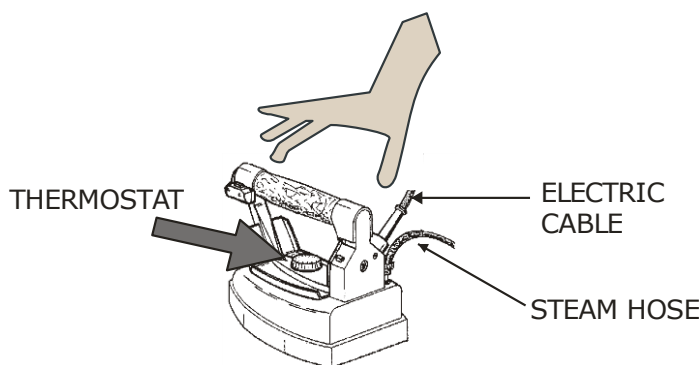
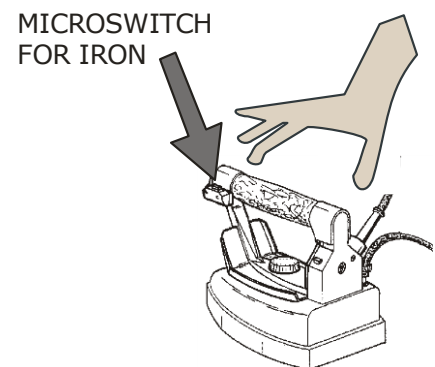

Fig. 6
Fig. 7
1. Seize the iron by the cork handle and press the micro-switch of the iron (fig. 7) 4-5 times so that steam comes out. This is necessary in order to warm the hoses and avoid water dripping from the iron.
2. Start ironing by pressing micro-switch of the iron (fig. 7), activating steaming. As a result, the fibers of the ironed element are damped. Release the micro-switch to smoothen all creases. For a good result, set the thermostat (fig. 6) on "cotton".
5. For dry ironing it is possible to adjust the thermostat (fig. 6) on various positions according to the type of fabric (check garment label). For steam ironing, set the thermostat on "cotton" or "flax".